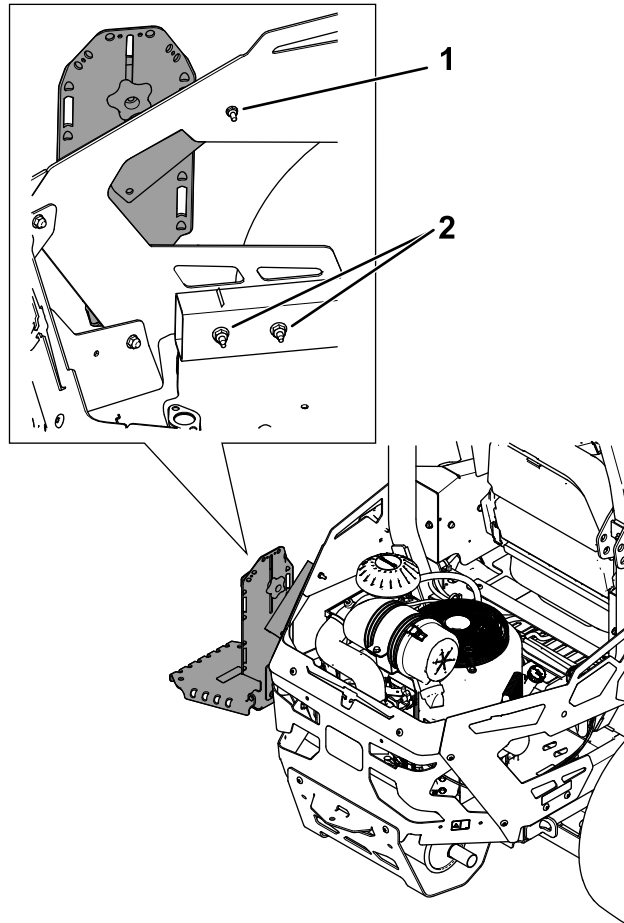
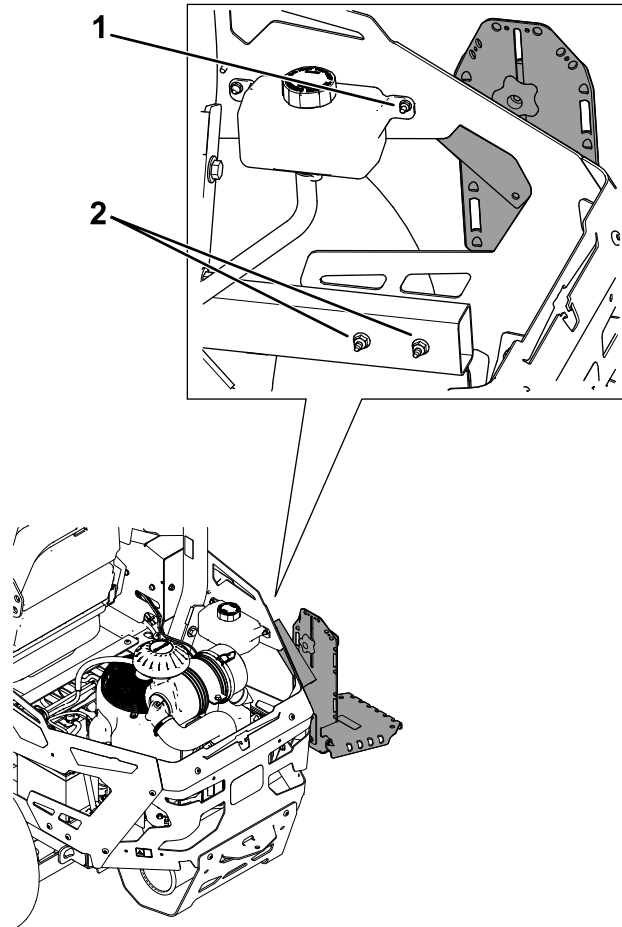

Figure 3
Figure 4
1. Secure the mount assembly to the side rear guard using 1 carriage bolt (1/4 x 1 inch) and 1 nut (1/4 inch) as shown in Figure 3 or Figure 4.
2. Secure the bottom of the main bracket to the engine guard using 2 bolts (5/16 x 3 inches) and 2 nuts (5/16 inch) as shown in Figure 3 or Figure 4.